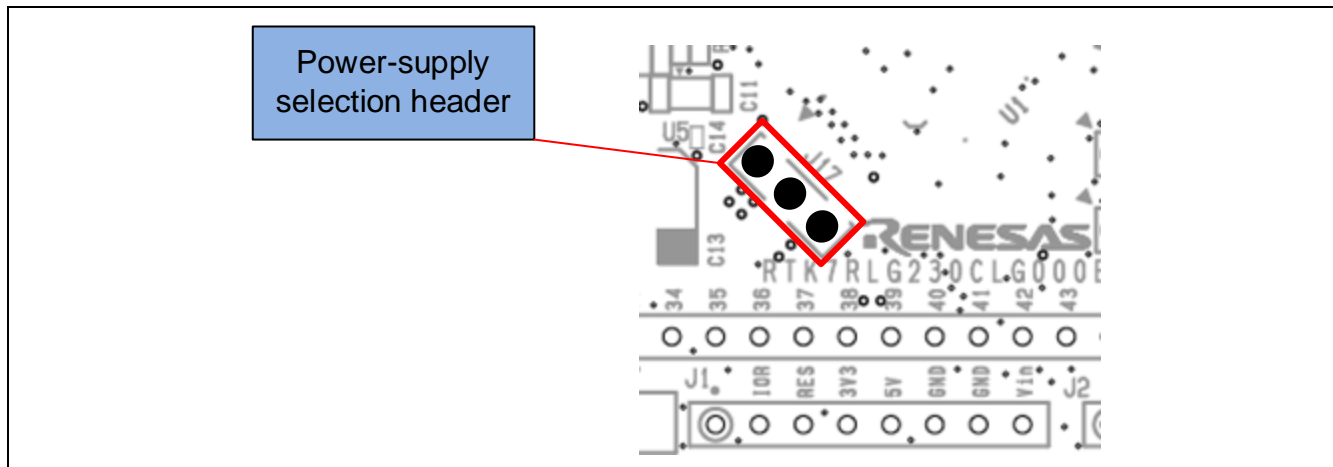

Figure 5-6 Setting of the Header to Select Supply from the Emulator or External Power (Top Side)
- J17 being open-circuit selects supply from the emulator or external power (Figure 5-6).